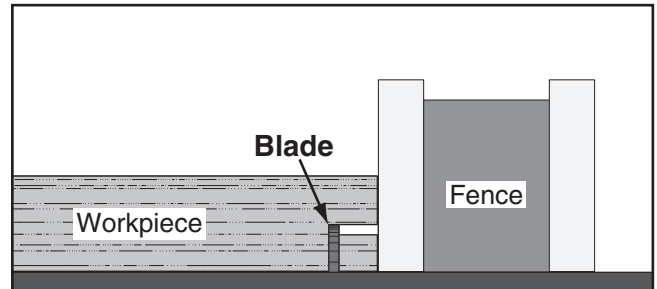

Figure 53. Example of second cut to create a rabbet.
7. Lay workpiece flat on table, as shown in **Figure 53**, adjust saw blade height to intersect with first cut, then perform second cut to complete rabbet.